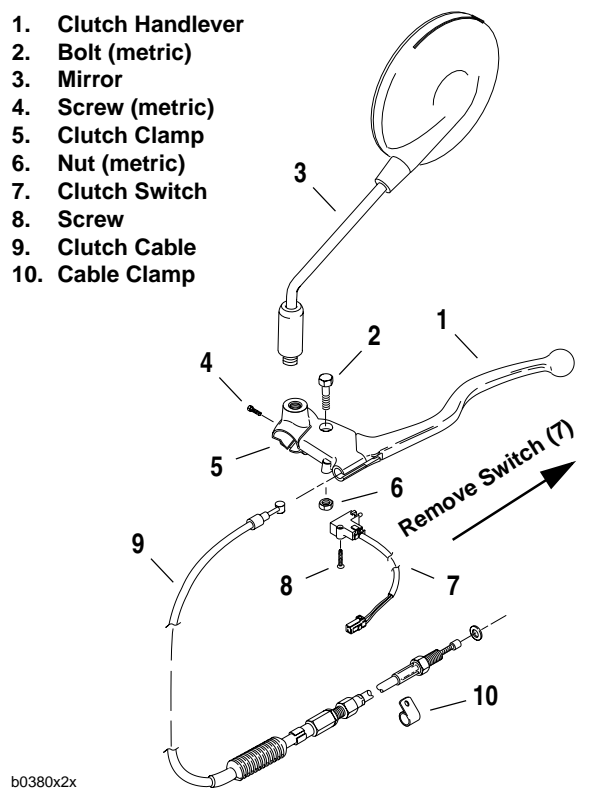

Figure 2-98. Clutch Hand Control
1. See Figure 2-98. Detach clutch switch (7).
- a. Remove screw (8).
1. See Figure 2-98. Attach clutch clamp (5) as follows.
- c. Place clamp next to switchgear housing. Fasten to handlebar with screw (4) (metric). Tighten to 30-35 in-lbs (3-4 Nm).
3. Apply small amount of LOCTITE ANTI-SEIZE LUBRICANT to bolt (2). Attach handlebar with bolt (2) (metric) and nut (6) (metric).
4. Attach clutch switch (7) with screw (8).